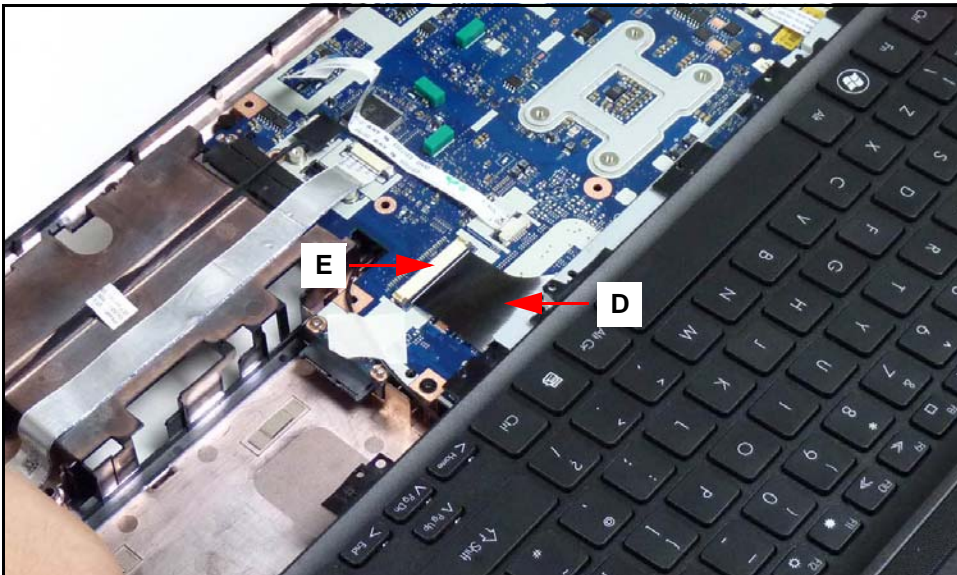

Figure 3-35. Disconnecting Keyboard FPC
5. Disconnect keyboard FPC (D) from mainboard connector (E). (Figure 3-35)
2. Connect keyboard FPC (C) to mainboard connector (D). (Figure 3-35)